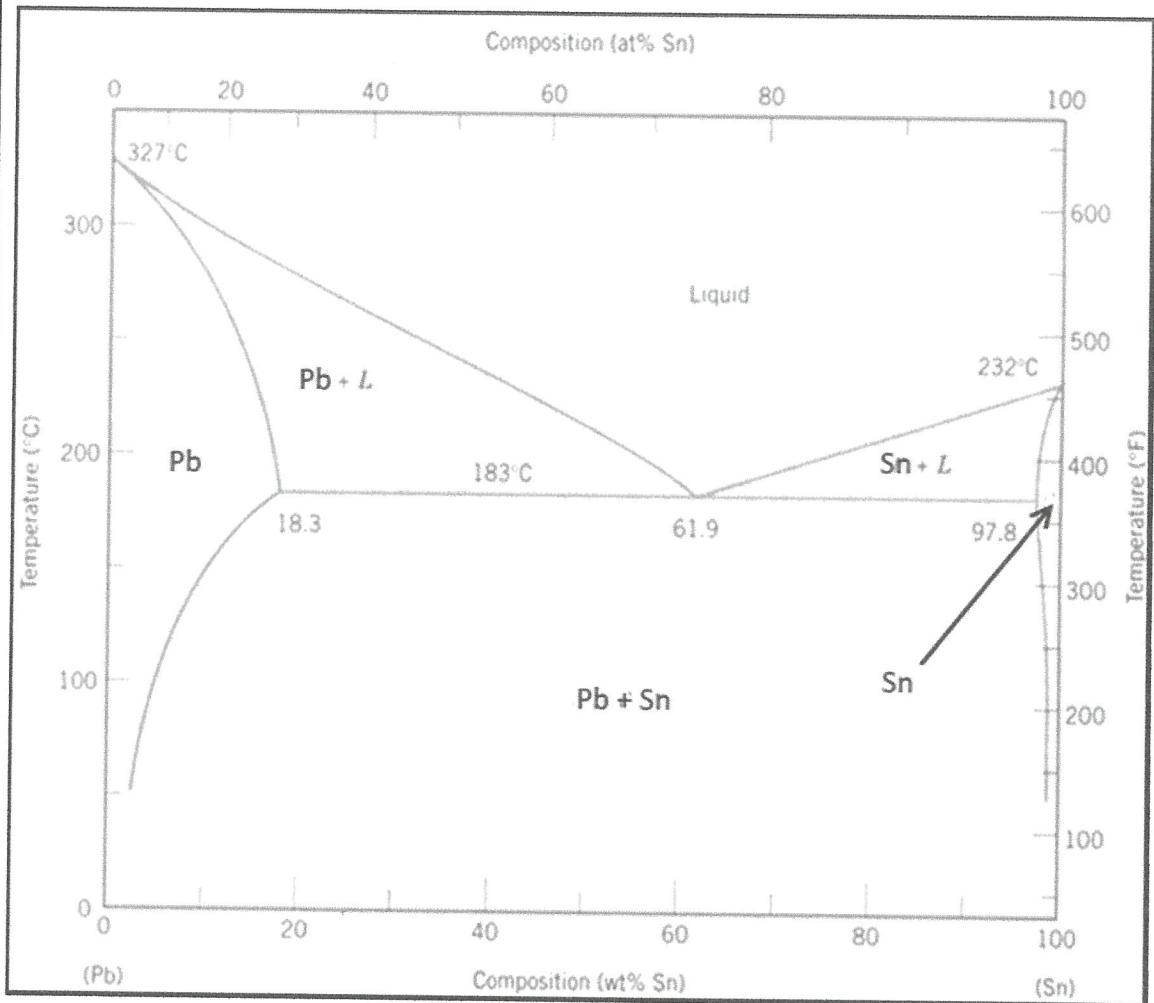

Figure Q5 (c)
- Q5** (a) Name and define **ONE (1)** type of line in phase diagram. (2 Marks)
- (c) By interpreting phase diagram of Pb-Sn (Refer **Figure Q5 (c)**), Solve phase analysis for composition of 30% Sn at $183^{\circ}\text{C} + \Delta T$ and 30% Sn at $183^{\circ}\text{C} - \Delta T$ by find: